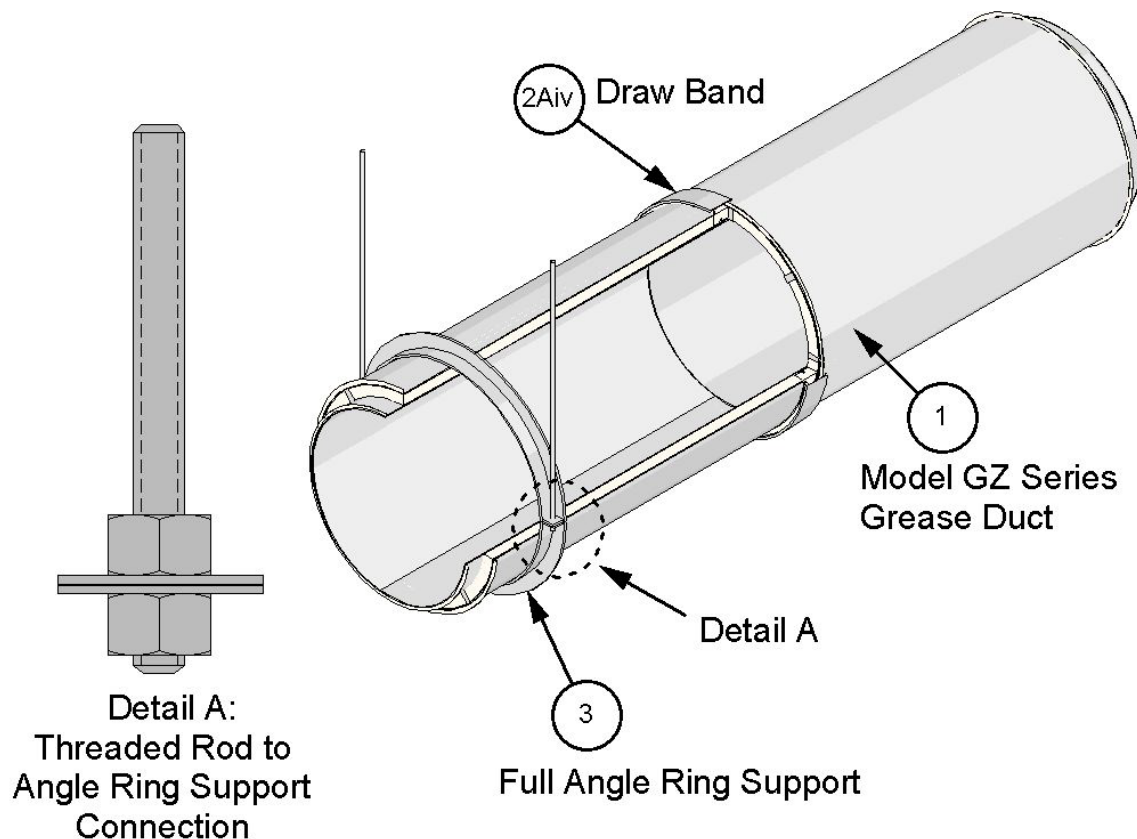

Figure 1. Model GZ Series Grease Duct
PRE-FABRICATED GREASE DUCT (Grease Duct): Reference Figure 1. Install Grease Duct in compliance with the requirements of NFPA 96, the International Mechanical Code (IMC), or other regulatory requirement, as applicable. Install at a slope of not less than 1/16 (0.0625) unit vertical in 12 units horizontal toward the hood or
- A. Horizontal Supports:** Support the Grease Duct (Item 1) using supplied steel, full-angle ring supports (see Figure 1) (two (2) half-rings required) and min. 1/2 in. diameter, threaded steel rods. Attach the threaded steel rods to the Floor/Ceiling Assembly (Item 4A) by
way of through-holes sized appropriately for the nominal threaded rod diameter and secured on top side with appropriately sized flat washer and double nut. Place one (1) threaded steel rod on each side of the Grease Duct and fasten to the full angle ring support with appropriately sized nuts (see Figure 1, Detail A). Space horizontal supports a max. of 84 in. on center (oc).